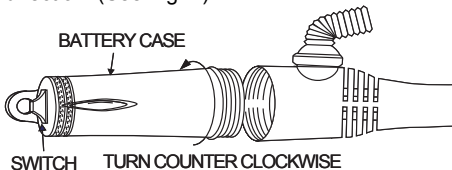

Fig. 1
1. Unscrew battery case in counter-clockwise direction. (See Fig. 1)